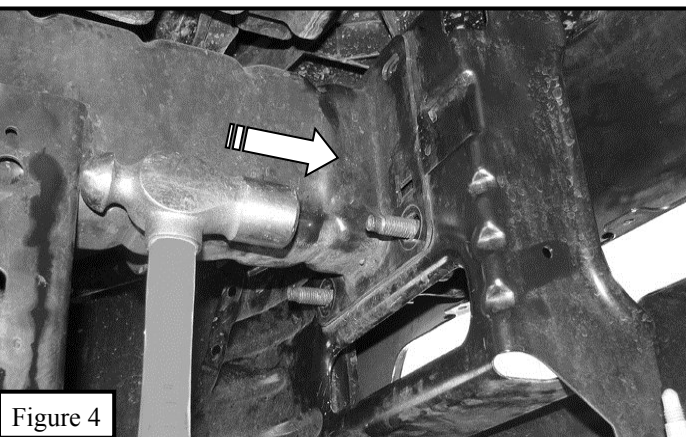
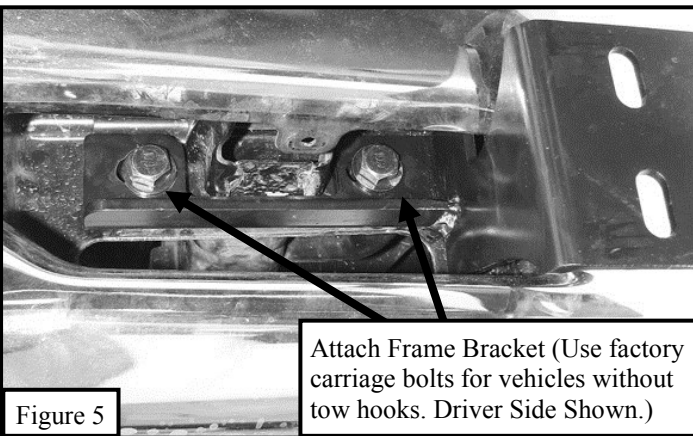

Figure 4
Figure 5
5. Drive the (2) carriage bolts in the bumper bracket out of the bracket by striking the end of the bolts with a hammer. **See Figure 4.** Discard the tin retaining washers. Insert the driver side Mounting Bracket into the opening in the front of the bumper and line up the (2) mounting holes with the holes in the bumper bracket. For vehicles without tow hooks re-use the factory carriage bolts and nuts to secure these brackets. For vehicles with tow hooks they must be replaced with the supplied (2) M12 x 60mm hex bolts and (2) M12 flat washers through the driver side Frame Mounting Bracket and bumper bracket (the factory nuts will be re-used). **See Figure 5.** Re-install the factory tow hook before attaching the nuts. Attach all hardware loosely.